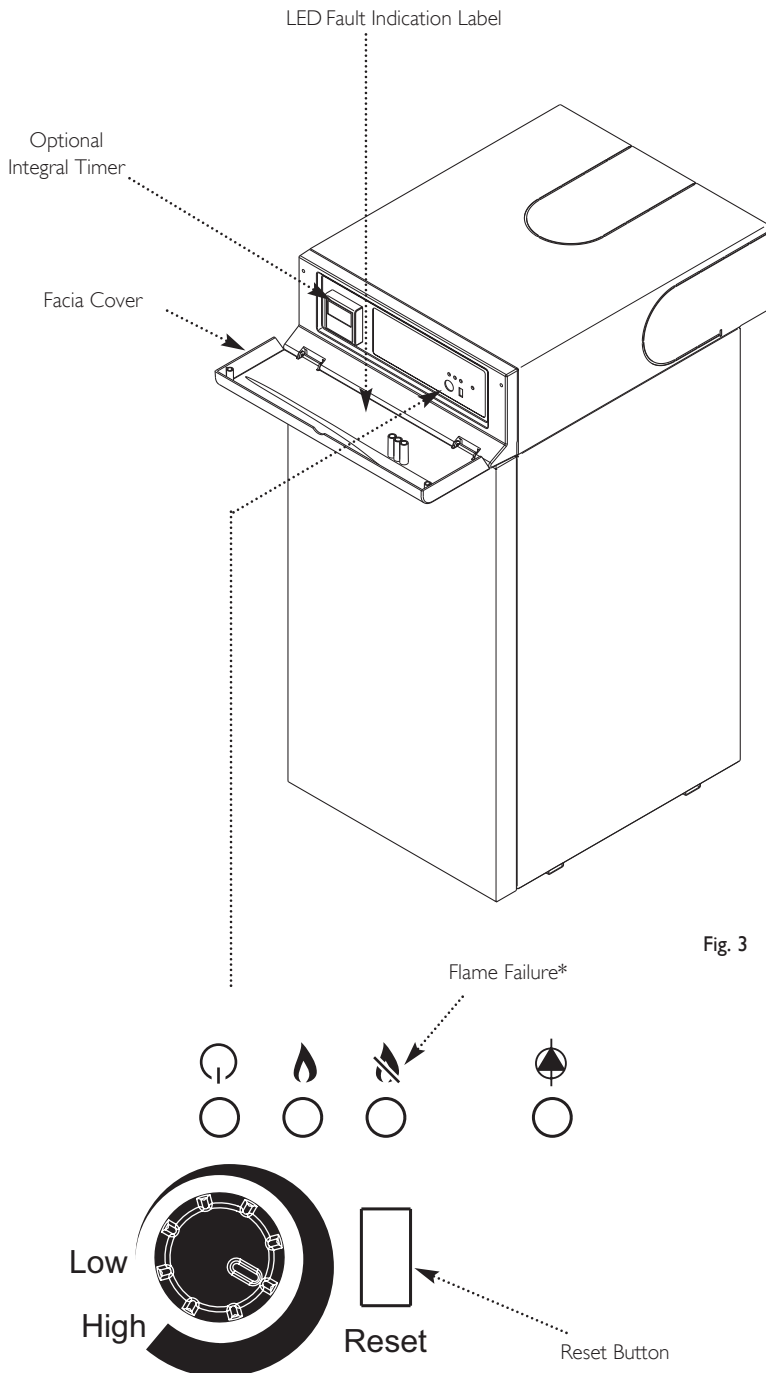

Fig. 3
2. The Flame Failure light (  ) will be either flashing or permanently illuminated and the boiler will need resetting (Fig. 3).
3. Press the Reset Button (Fig. 3).